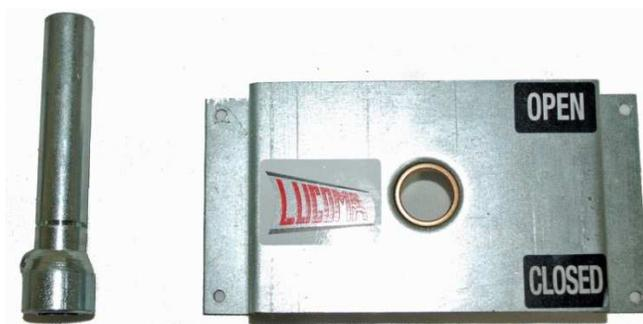

Figure 2: 18mm Shaft Extension and Lucoma Mounting Bracket
1. Lucoma air dampers may include an 18mm round shaft extension and a mounting bracket attached as shown in Figure 2 below.